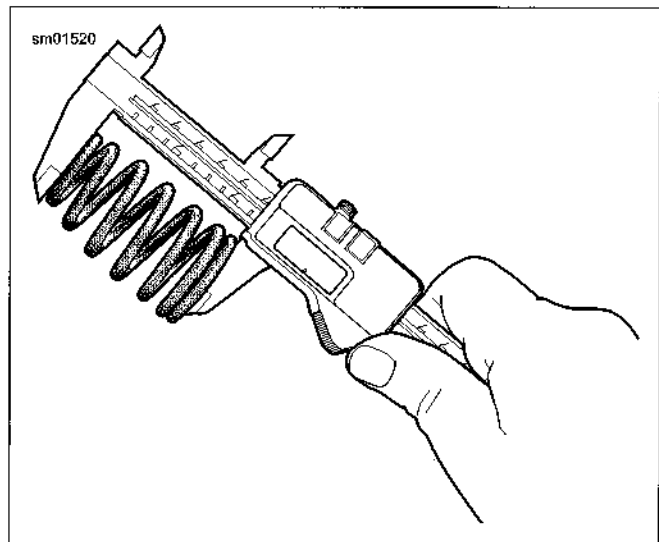

Figure 3-33. Checking Spring Free Length
2. See Figure 3-33. Measure free length of each spring. Refer to Table 3-26.